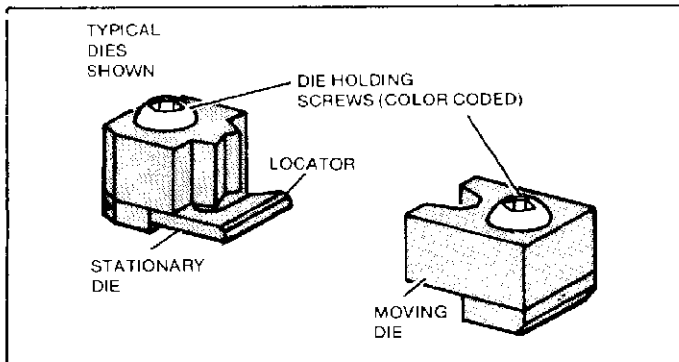

Figure 1
- (b) Each set of dies consists of a moving die and a stationary die. See Figure 1.
Note that dies and metal sleeves of splice are color coded according to wire size for easy identification. See Figures 1 and 2.